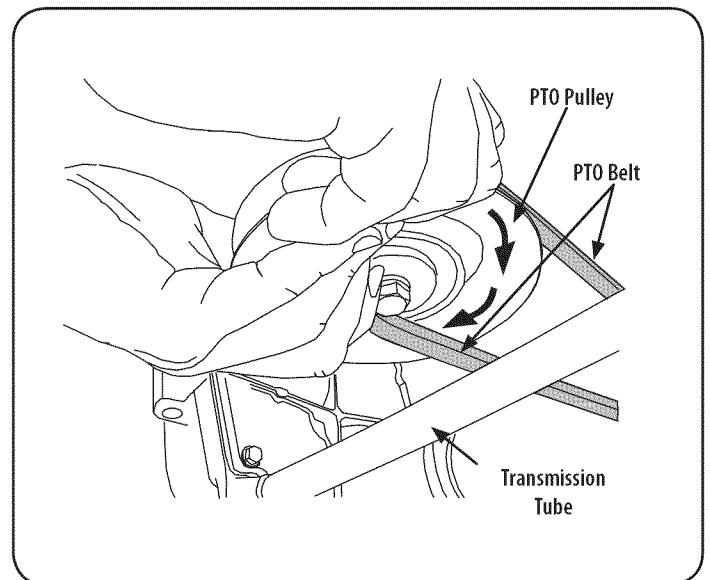

Figure 33
- d. While still holding the belt downward, continue turning the PTO pulley until the belt is rolled off the pulley. Refer to Figure 33.
11. Pull the right side of the belt rearward and place the narrow V side of the belt into the PTO pulley. See Figure 33.
12. While holding the belt and pulley together, rotate the pulley to the left (See Figure 33). Continue holding and rotating the pulley and belt until the belt is fully rolled into the PTO pulley.